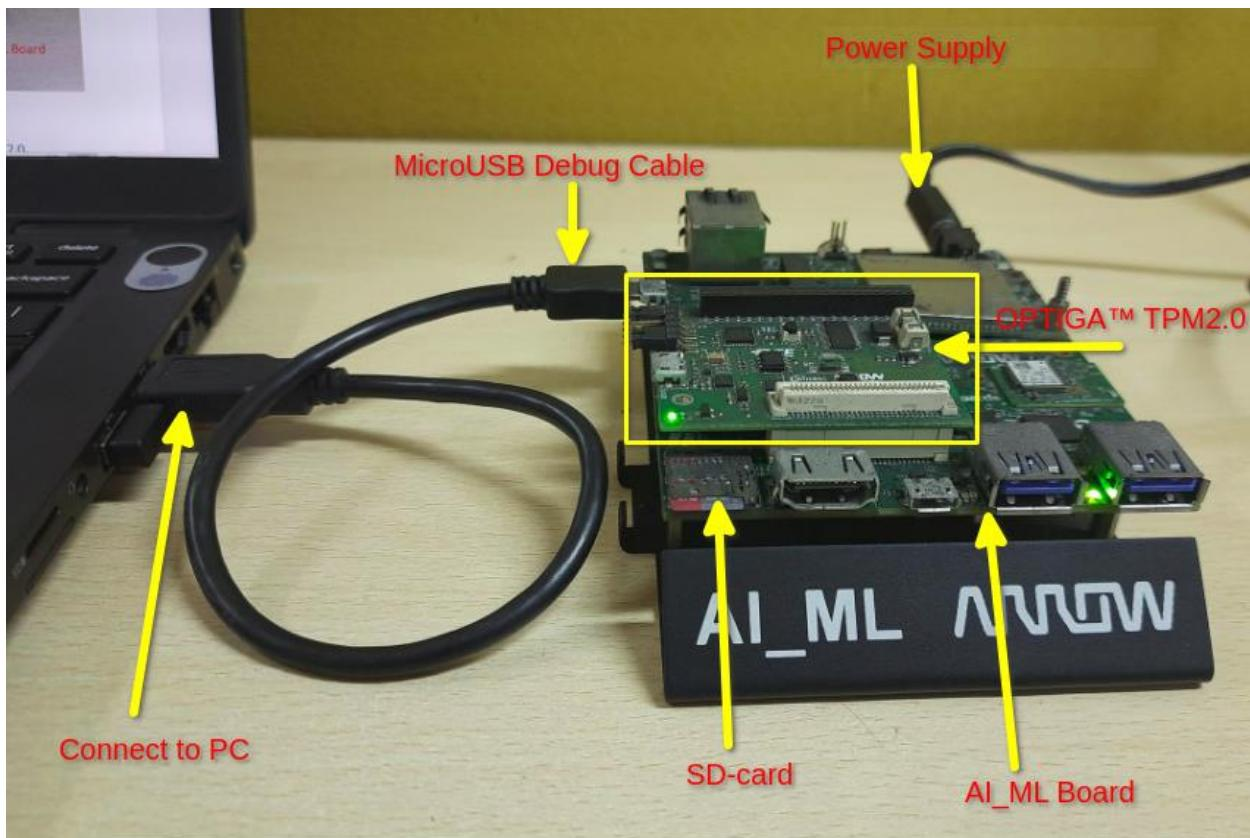

Figure 2: Hardware Connection Setup on AI_ML board
The mezzanine will be mounted on top of the AI_ML board as shown in Figure 2. When the AI_ML board is powered-up, the Power LED on the OPTIGA™ TPM2.0 board turns on, indicating that the board is correctly connected. *Users need to ensure the dip switch settings are configured for SD1 (0011). These settings are also on the silk screen of the board for your reference.*
2. Connect Micro USB Debug Cable on the Tresor Mezzanine board as shown in above Figure 2.